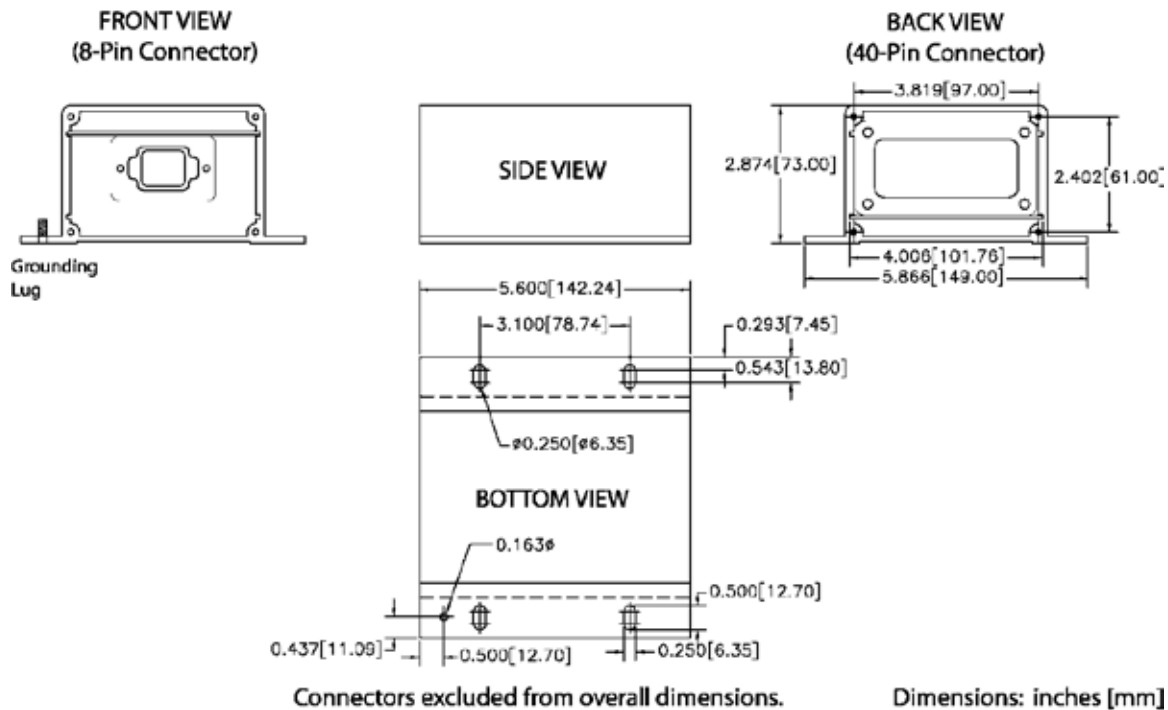

Figure 26.17 – Thermocouple, RTD, and Discrete I/O Module Physical Layout
- Reads twelve (12) discrete inputs and sets eight (8) Form C Relay Outputs Converts between physical I/O and CAN data link commands System throughput: All channels are scanned in 100 ms
- Compact size (see mechanical drawing, Figure 26.17)
Figure 26.17 shows the ECM Identification Parameters list. This list shows the ECM serial number (read-only) of the module that is connected, and allows for configuration of the ECU instance.